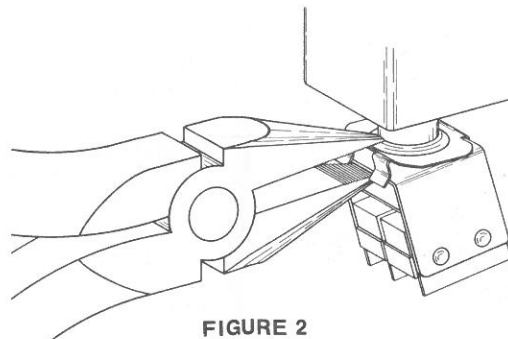

FIGURE 2
2. Slip single wide flange on nut over edge of bracket. (Figure 2)
3. Place pliers carefully under bracket top and on mounting clip and squeeze bracket into place. (Figure 2).